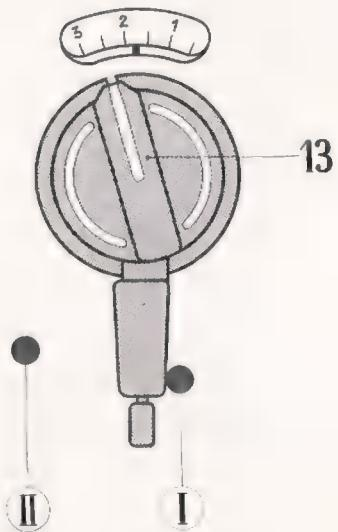

Fig. 37
6. Setting the lever 13 (Fig. 37). This lever is turned so far to the left until the *white mark* at its upper end lies opposite the *white mark* of the zig-zag lever 12 (Fig. 37). In this way the machine is set for buttonhole sewing.